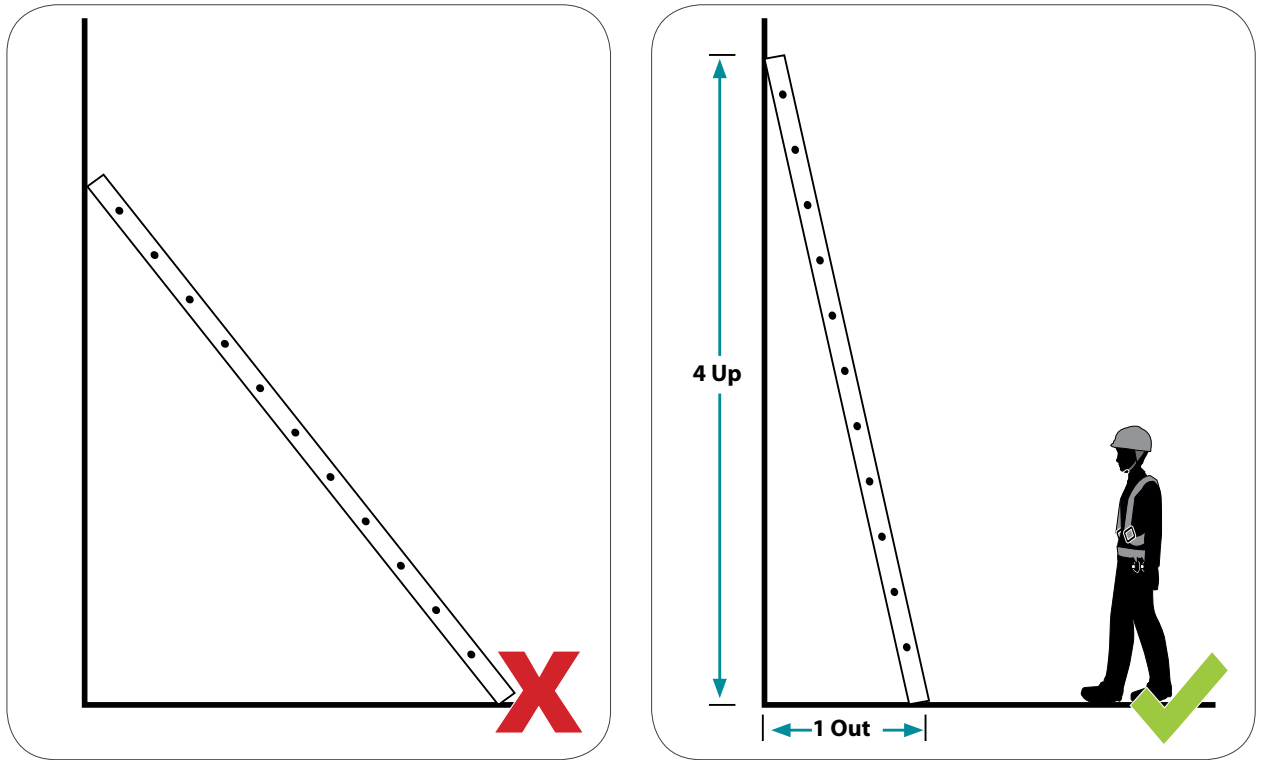

Figure 11.4: The ratio of the height to the base for a correctly positioned ladder is 4:1.
- 11.2.2.1** Ladders leaning against a supporting structure should be set up on a level area on firm footing and the base should be located a distance from the wall approximately a quarter of the vertical height of the ladder (see Fig 11.4).